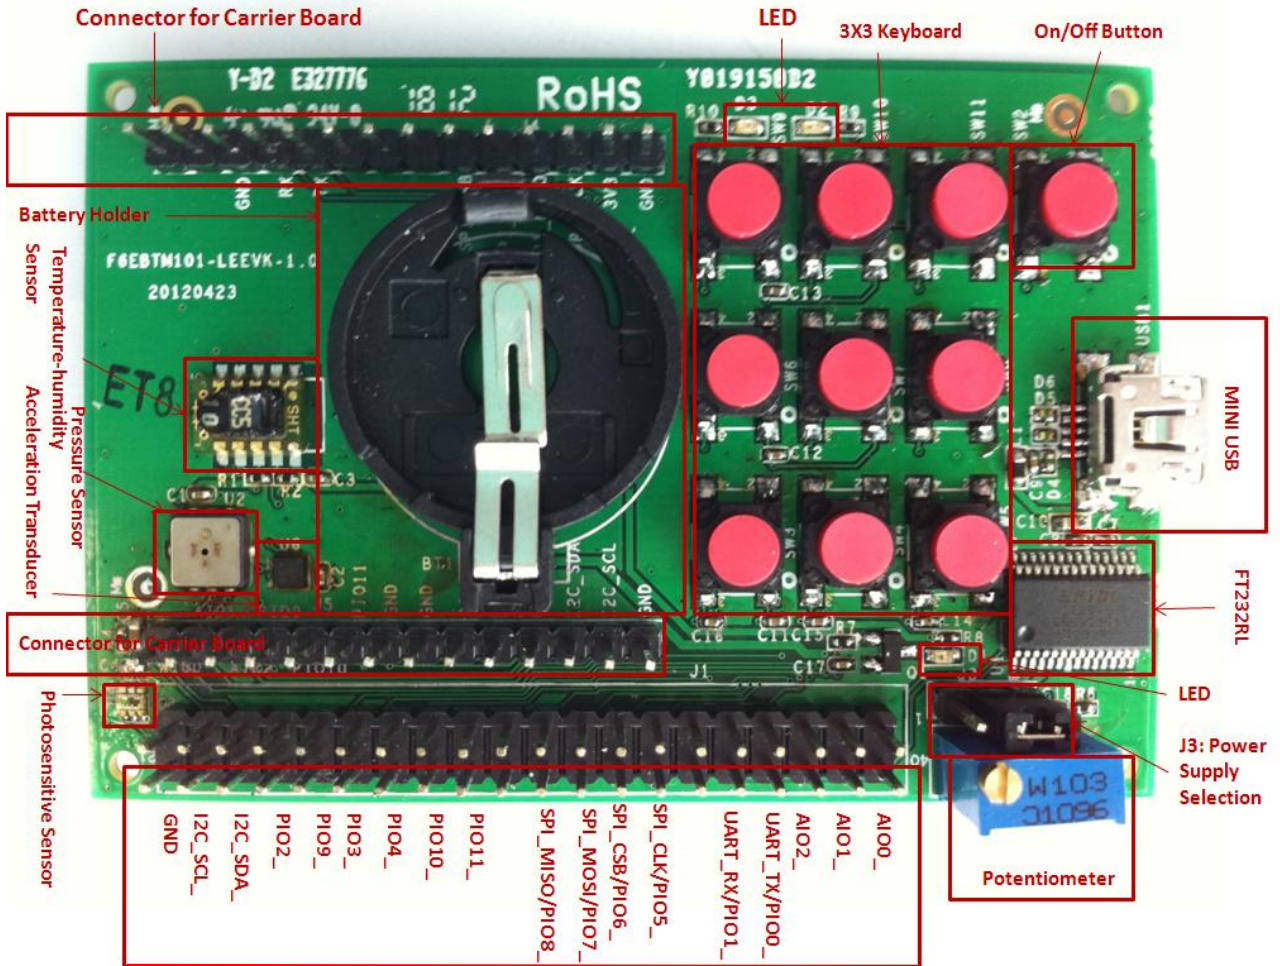
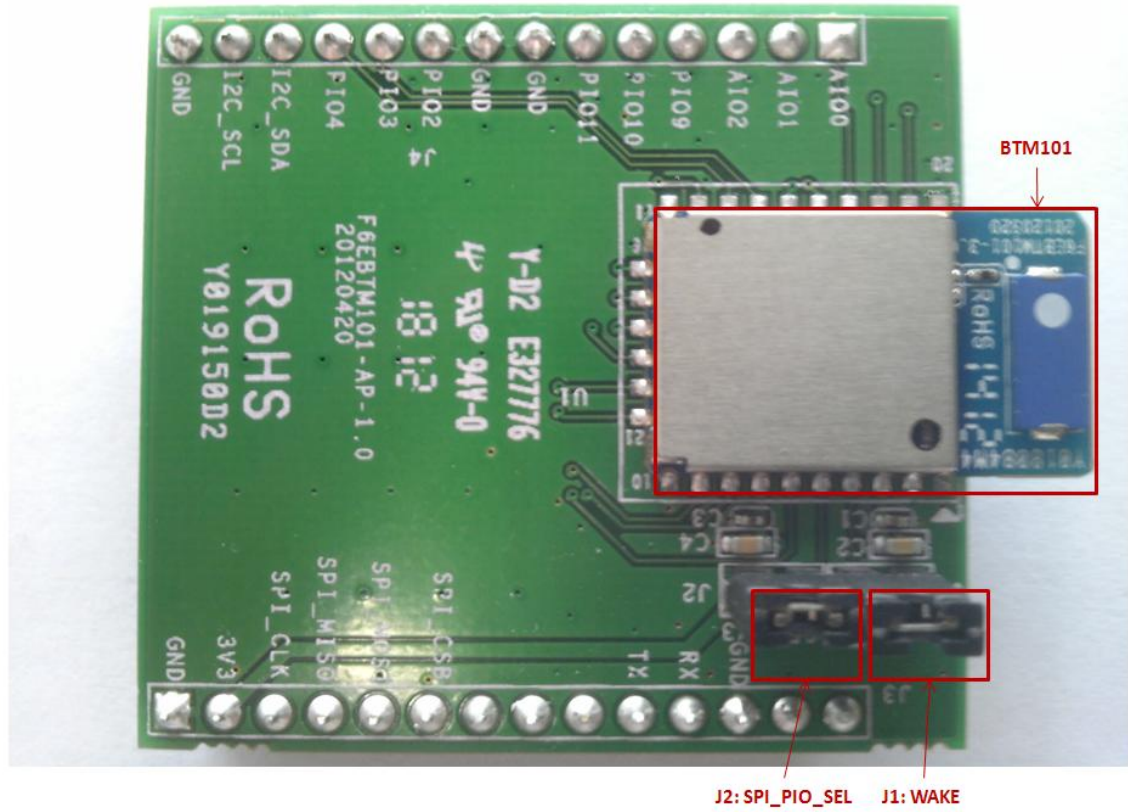

Figure 1: Top View of the EVK Board
Figure 2: Top View of Carrier Board
Figure 1 shows the top view of FLC-BTM101 EV Board. Figure 2 shows the top view of Carrier board.
1. Battery Supply: Use a jumper to connect J3.1 with J3.2 on evaluation board. (See Figure 1 “J3: Power Supply Selection” the two pins on right side)
2. USB power supply: USB 5V is reduced to 3.3V by a LDO in the USB to UART converter chipset. A jumper to connect J3.2 and J3.3 on evaluation board is used to select this power supply mode. (See Figure 1 “J3: Power Supply Selection” the two pins on left side)
The SPI port can be used to debug software, or it can be used to set the chipset for testing. A jumper to connect J2.1 and J2.2 on the carrier board is used to enable SPI port. (See Figure 2 “J2:SPI_PIO_SEL”)
There is a dual-line connector (J1 in the schematics) in EV Board (in the lower part of Figure 1). Upper row connects to carrier board. Any pin of BTM101 can be achieved with J1 in EV Board. Lower row of the connector is used to connect to circuits on evaluation board. Jumpers to connect the pins in upper and lower rows are used to select circuit on EV Board.
Figure 2 shows the top view of Carrier board.
Use a jumper to connect J1.1 with J1.2 on carrier board(See Figure 2 J1: WAKE), the module is in wake mode.
Use a jumper to connect J2.1 with J2.2 (See Figure 2 J2:SPI_PIO_SEL), PIO[8:5] provides the SPI debug interface.